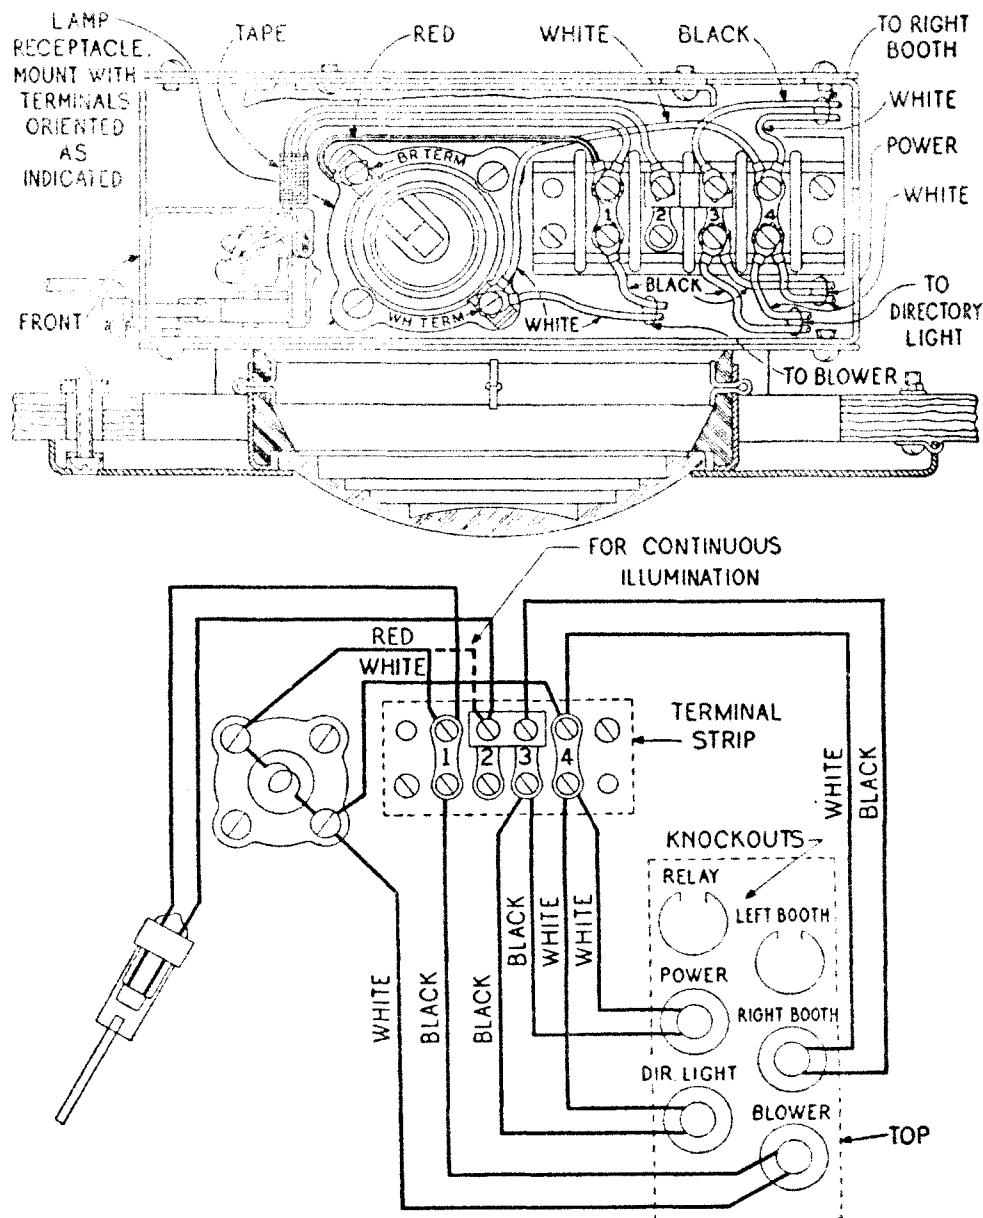

Fig. 9—4A Light Fixture for Four Cables
7.02 **At the 4-type light fixture**, connections are made to the terminals as shown in Fig. 9. Each cable shown is to be provided and connected only when required. Spade terminals should be inserted squarely and to full depth of slot in order to provide maximum separation between terminals. When connected as shown in Fig. 9, the lamp operation is controlled by booth-door movement. To obtain continuous illumination in booth, connect red-strap lead from lamp socket to terminal 2 instead of terminal 1 on light-fixture terminal strip.
- (2) Remove the intake tube of the blower assembly and lower it through the hole provided in the booth ceiling, resting the flange on the top side of the ceiling.
- (3) Disconnect the 8-inch assembly cable from the 40-inch extension cable by turning the twist-lock connector counterclockwise to release the locking plug from its socket.
- (4) Form the blower extension cable in the ceiling of the booth so that it rests in the notch of the metal-ceiling partition and drop the socket end of the twist-lock connector through the small opening in the corner of the booth ceiling. Connect the other end of the cable to the light fixture as shown in Fig. 9.
- (5) Remove the screws securing the cover at the bottom of the blower with a KS-8187 wrench and remove the cover and blower motor from the blower housing.
- (6) Hold the remainder of the assembly against the booth ceiling with the mounting studs extending through the holes provided in the flange and through the top side of the ceiling.
- (7) Reach one arm through this part of the assembly and secure the lockwashers and wing nuts in place.
- (8) Rest the remainder of the blower assembly on top of the coin collector to bring the plug end of the assembly cable within reach of the twist-lock connector hanging from the ceiling. Insert the plug into the twist-lock connector and **lock** together by turning clockwise.
- (9) Work the slack of the blower cable back up into the channel behind the blower housing while raising the assembly into place. Make certain that the excess cable does not interfere with the blower operation by **pulling** all of the slack into the space between the ceiling and the roof of the booth.
- (10) Reassemble the motor and cover to the blower framework.
- (1) Proceed as covered in 11.12 (1).
- (2) Remove the grille at the top of the front of the booth and pass the intake tube of the blower through the opening and drop into hole in ceiling provided for it.
- (3) Proceed as covered in 11.12 (3).
- (4) Reach through the ventilator opening and form the blower extension cable in the ceiling of the booth so that it rests in the notch of the metal-ceiling partition. Drop the locking plug through the small opening in the corner of the booth ceiling and pass the other end through a knockout in the light-fixture box. While holding this cable in place with one hand, place the locknut to secure the cable to the box from the underside of the light fixture with the other.
- (5) Connect the cable from the underside of the light fixture in accordance with Fig. 9.
- (6) Proceed as covered in 11.12 (5), (6), (7), (8), (9), and (10).